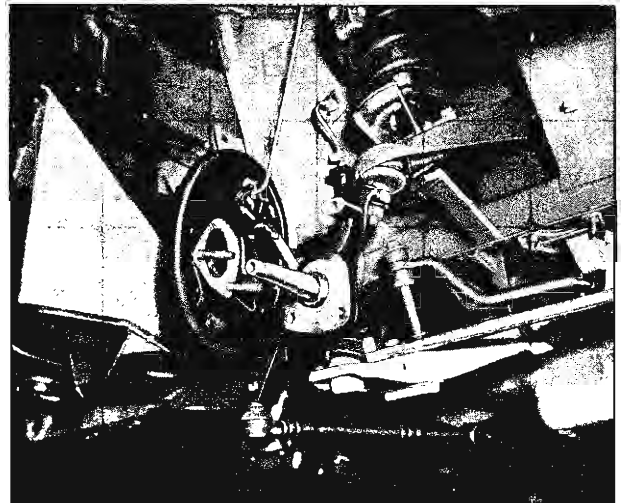

Fig. 12—Backing Plate Removed—Chevy II
**Chevy II**—While vehicle weight is still on front wheels, position support between upper control arm and frame side rail (fig. 12), then raise vehicle and position adjustable jackstand under lower control arm.